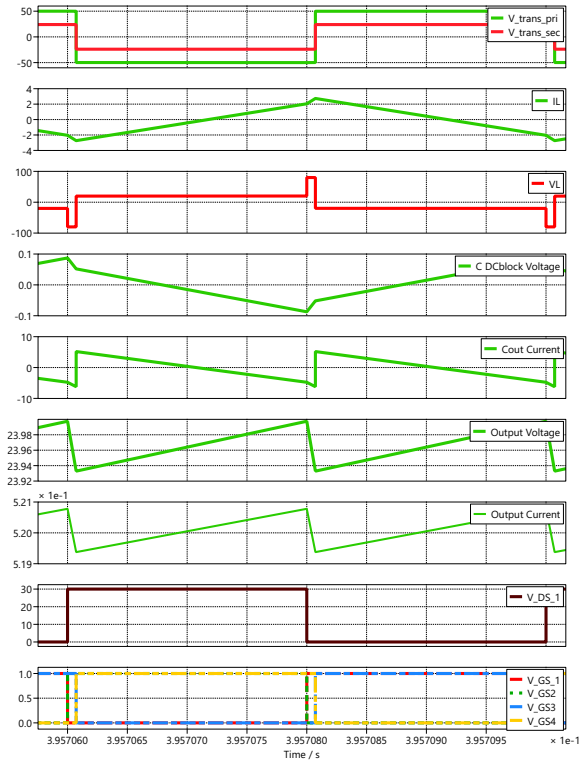
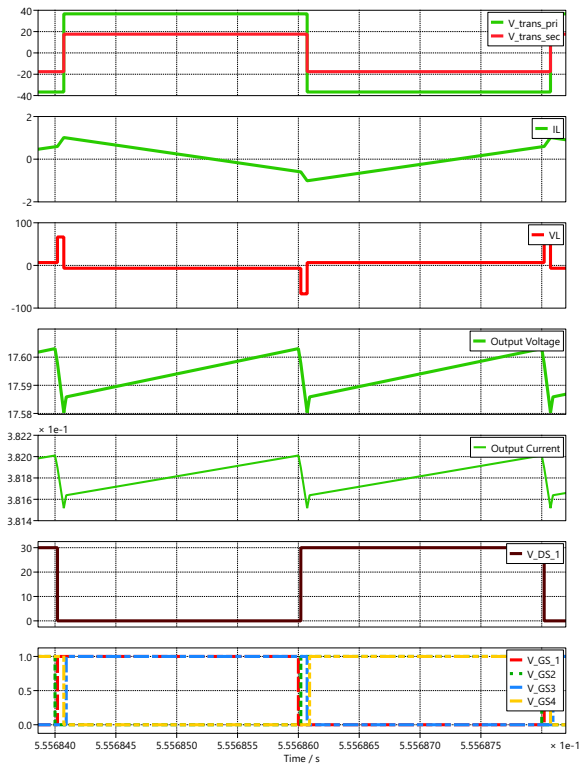

Figure 8 Voltage and current waveforms of interest with $t_{dead} = 0$ s.
Figure 9 Voltage and current waveforms of interest with $t_{dead} = 20$ ns.
Figure 8 and figure 9 show the interest waveforms for the case of minimal input voltage $V_{min} = 30$ V and 1/4 of the nominal power $P_{\frac{1}{4}} = 12.5$ W. They represent simulations of the circuit with zero and 20ns switching dead time, respectively.
- We can see that in figure 9, the output voltage no longer oscillates around 24V, but varies around 17.6V instead. This is explained by the dead-time added, that would require a modification of φ by the controller. Because, φ , was kept the same as before, the output voltage decreases.